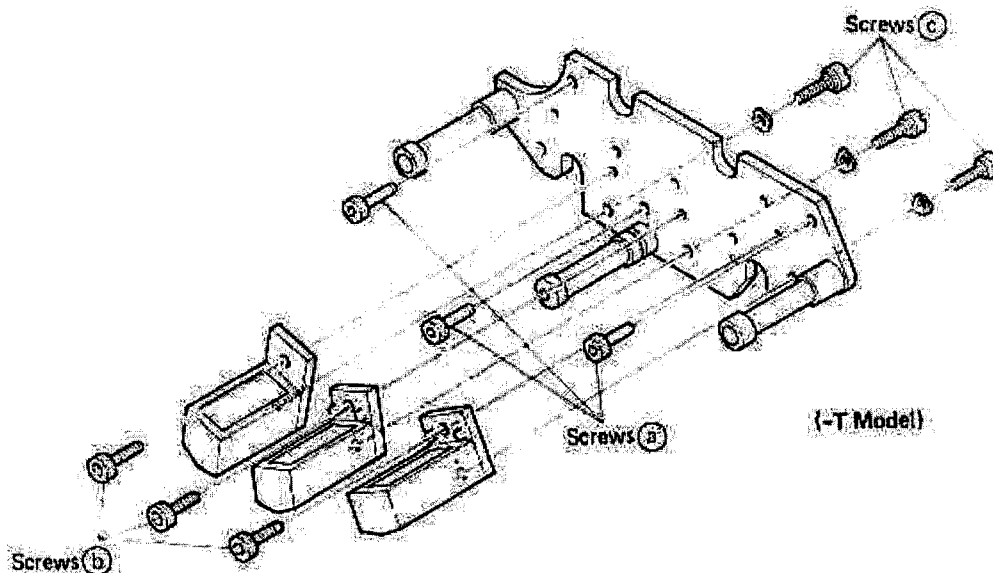

Fig. 9-3-4. Head Ass'y Removal
1. First, remove the head housing as described in 9-3-1 (A).
2. Using a 3 mm Allen wrench, remove the three Allen screws (a) holding the head as shown in Fig. 9-3-4.